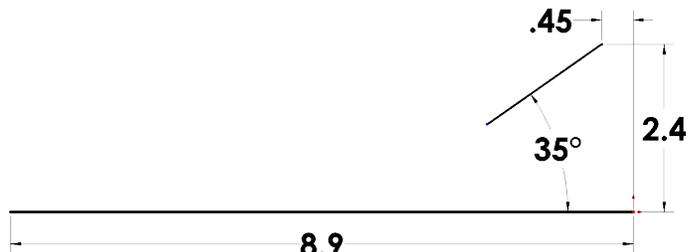

Fig. 3
- Step 5. Click **Smart Dimension**  (S) on the Sketch toolbar.
- Step 6. Add dimensions, **Fig. 3**.
- Step 7. Click Zoom to Fit  (F) on the View toolbar.